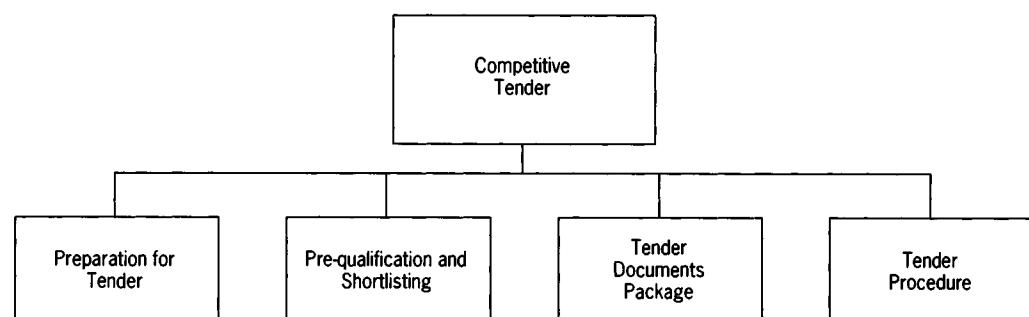

Figure 102 Product Breakdown Structure: Levels 1 and 2 only
1. Create a Product Breakdown Structure, as you would normally do when using PRINCE® as in Figure 102, where the example will be a procurement project.